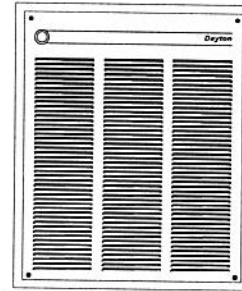

Figure 1
3. Power supply must enter back box through the knockouts in the RIGHT side of box (see Figure 1). See also TOP marking on the back box for proper orientation.